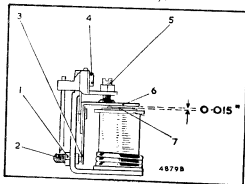

Fig. 14 - Mechanical setting of the regulator
- Slacken the voltage adjusting screw locknut and turn the adjusting screw (Fig. 14) in a clockwise direction to raise the setting or in an anti-clockwise direction to lower the setting. Turn the screw only a fraction of a turn at a time. Repeat as above until the correct setting is obtained and tighten the locknut.
The mechanical or air gap settings of the regulator shown in Fig. 14 are accurately adjusted before leaving the Works, and, provided that the armature carrying the moving contact is not removed, these settings must not be tampered with. If, however, the armature has been removed the regulator will have to be reset. To do this proceed as follows:—